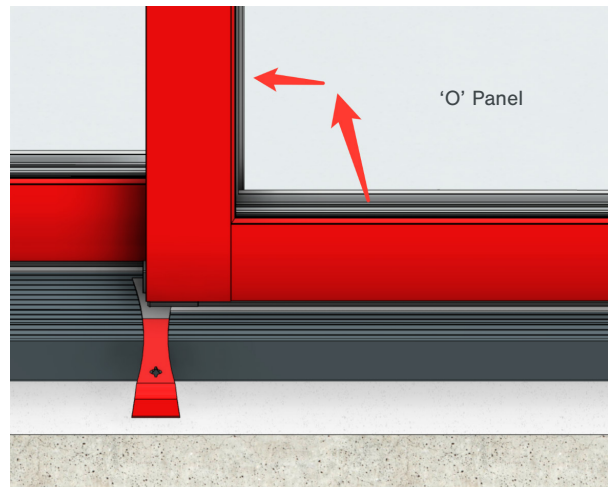

Fig P12
- When removing the 'O' panel, reapply the pry bar to protect the transverse drain by pushing it under the weatherstrip pad located at the leading edge of the exterior Stile (Fig. P12).